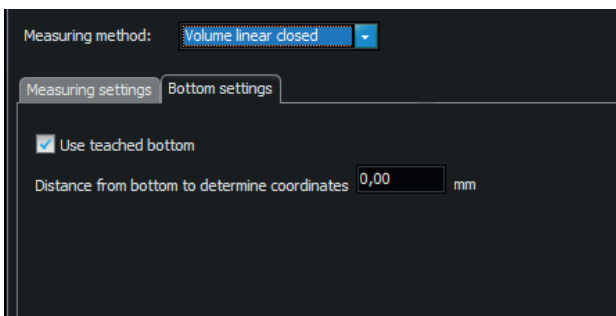

Figure 30: Bottom settings
- Select the job "Volume linear closed" and check the "Use programmed bottom" box under the "Bottom settings" tab. For "Distance from bottom to determine coordinates", enter a value of approx. 0.5 mm in order to prevent the bottom, or parts thereof, from being measured (see Figure 30).